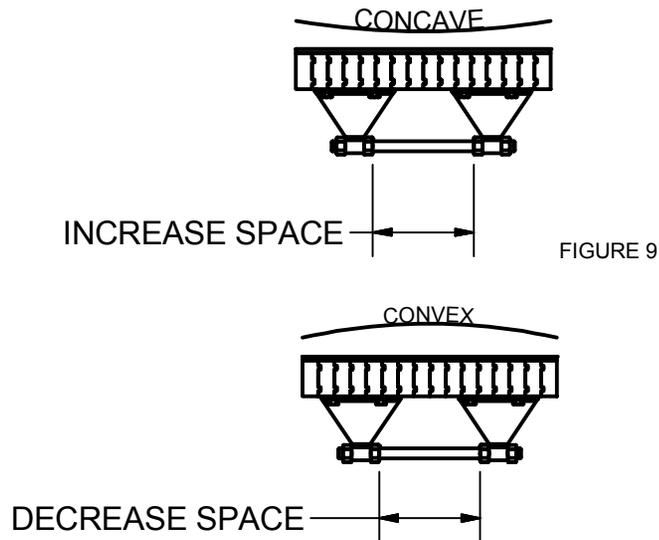

FIGURE 9
- Step 2. Using the climate adjusters attached to the bottom of the play field, create a concave condition across the width of the play field along the entire length. This is recommended for proper play. (See Figure 9) (Check with a straight edge across width at each climate adjuster. A sheet of paper should go under at the center of the straight edge when properly adjusted)